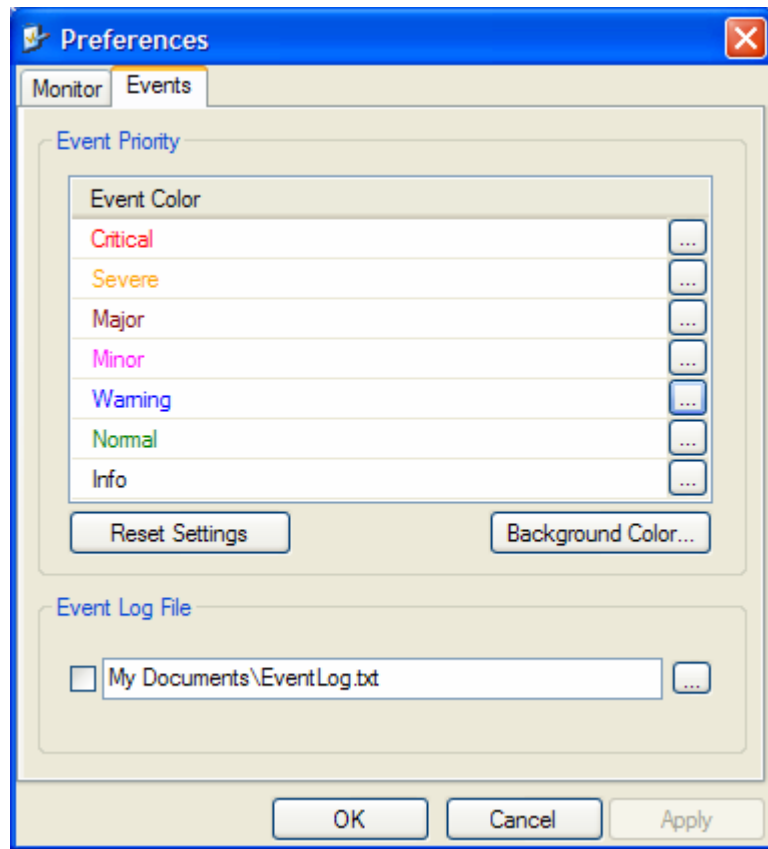

Figure 5-2. Preferences Dialog Box, Event Log Tab
2. Click the Events Tab (see Figure 5-2).
The Preferences dialog box appears (see Figure 5-2).